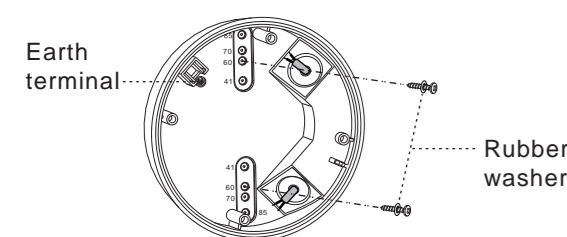

FIG.19
3.4.3.3 Choose proper knockouts to fix the junction box JB-41 on the surface of ceiling board with 2pcs wood screws attached with rubber washer (See FIG.19).